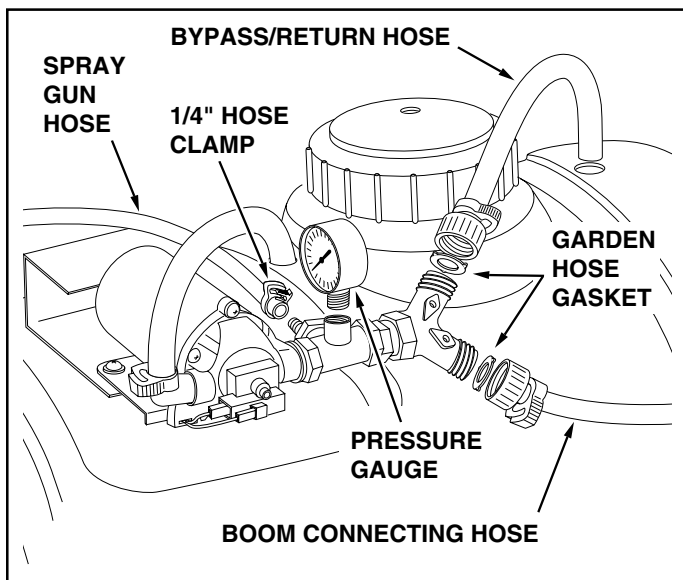

FIGURE 8
12. Insert a garden hose gasket into the swivel nut on the bypass/return hose. Screw the nut onto the upper outlet of the "Y" valve fitting. Place the other end of the hose down through the hole at the rear of the tank. See figure 8.
13. Insert a garden hose gasket into the swivel nut on the boom connecting hose. Screw the nut onto the lower outlet of the "Y" valve fitting. See figure 8.
14. Slide the 1/4" hose clamp onto the spray gun hose. Push the hose onto the hose adapter on the side of the "T" fitting as shown in figure 8. Tighten the clamp around the hose and the adapter. Wrap the hose around the tank and snap the spray gun into the clips on the side of the tank.
15. Carefully screw the pressure gauge into the top of the "T" fitting. See figure 8.